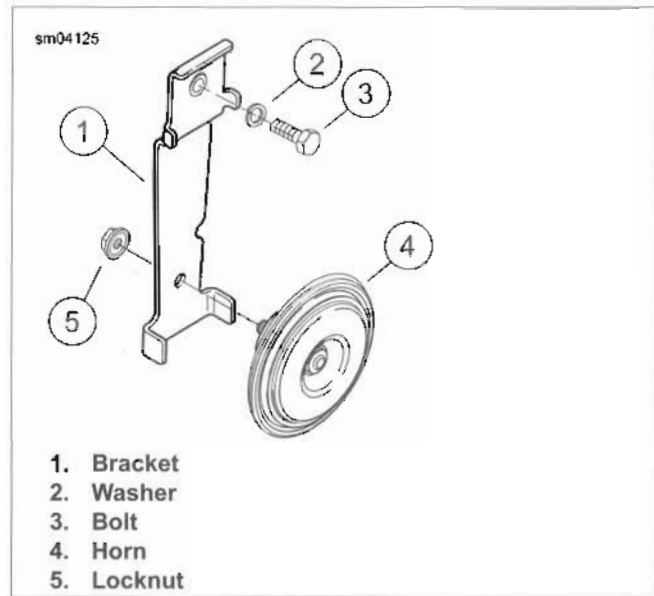

Figure 7-107. Horn: FXSB
1. See Figure 7-107. Remove bolt (3) and washer (2) to detach horn bracket (1).
3. Remove locknut (5) to detach horn from bracket.
5. Attach horn to bracket with new locknut (5).
7. Attach horn bracket using washer (2) and bolt (3). Tighten to 13-15 ft-lbs (17.6-20.4 Nm).